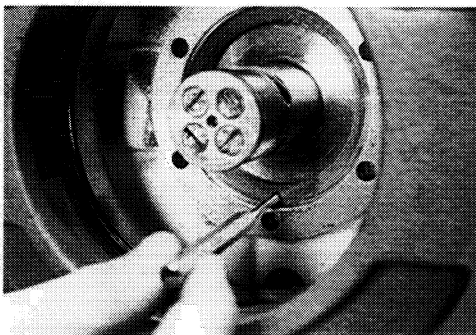

Fig. 16
Drive out the dowel pin (86) to clear the stator (Fig. 16).